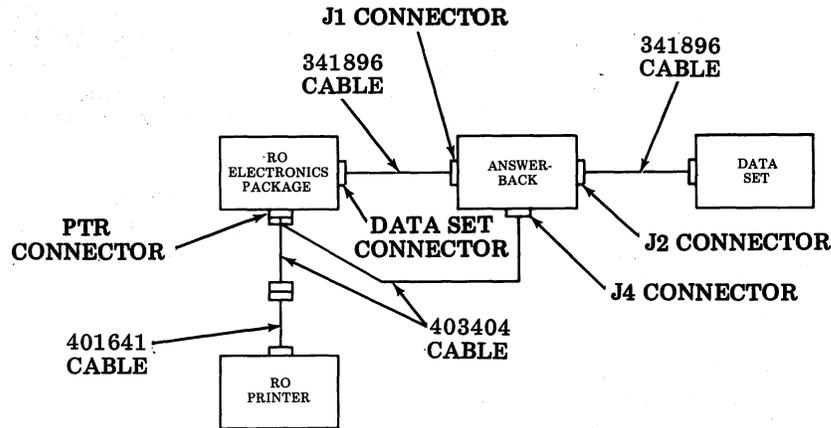

Fig. 27—RO Cable Arrangement
4.77 With the pedestal door open, and the answer-back resting on the right side of the pedestal door, connect the cables as follows (Fig. 27):